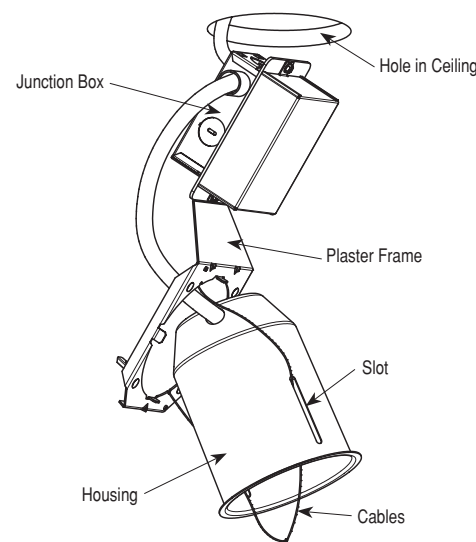

Fig. 2
3. Two cables are secured to sides of plaster frame. Be sure these cables are fed through slots in the sides of housing as shown in figure 2. Insert the housing through the hole in ceiling, junction box side in first.
2. Bring plaster frame assembly through ceiling cutout as shown in figure 2.